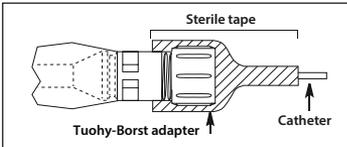

Figure 8
- Tuohy-Borst adapter end of catheter contamination shield should be secured with sterile tape to inhibit insertion catheter movement (refer to Figure 8).